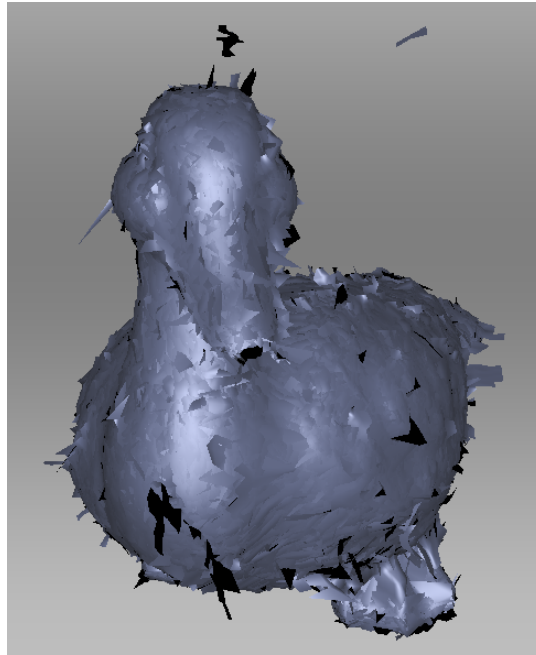

Figure 145: Alignment result.
4. Click *Align...* to run the alignment with your specified restrictions (Figure 145 shows example results). If you are dissatisfied with the alignment results, click ↺ and specify additional point sets, or reposition the current sets. To redo an operation that you have undone, click ↻.